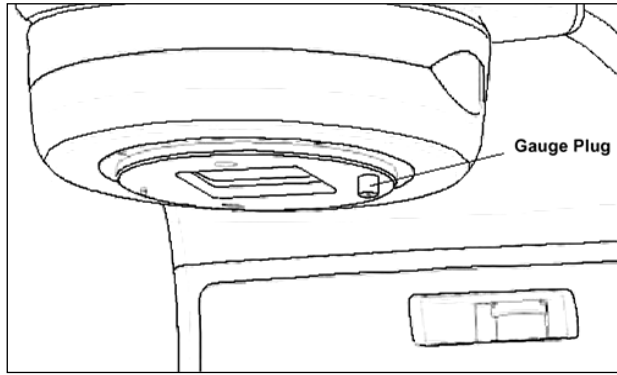

Figure 29: Gauge Plug Installed
4. Attach 36.9 mm Gauge Plug (medium-height Plug) over Accessory Mount alignment pin (shown in Figure 29). Verify LSG does not trigger and the red indicator LED does not illuminate.